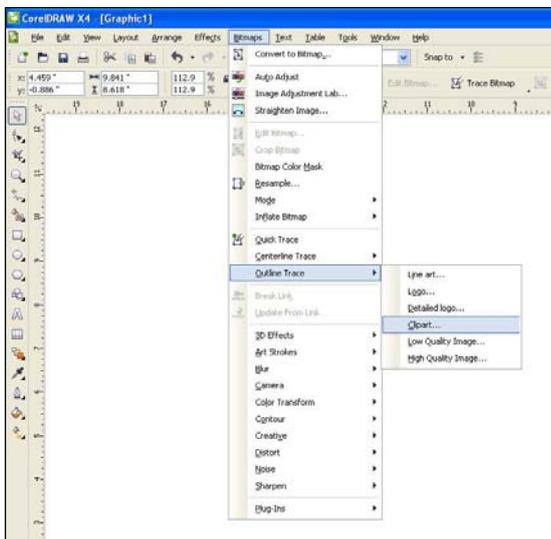

Figure 1
- To perform a trace of your image, go to: *Bitmaps → Outline Trace → Clipart*. (See Figure 1)